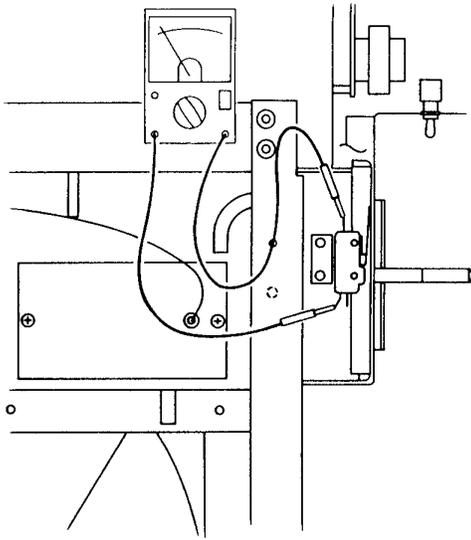

Figure 55. Interlock Switch Assembly
2. Use a V.O.M. (Volt Ohmmeter) to check the operation of the switch when the front door is installed (Figure 55).